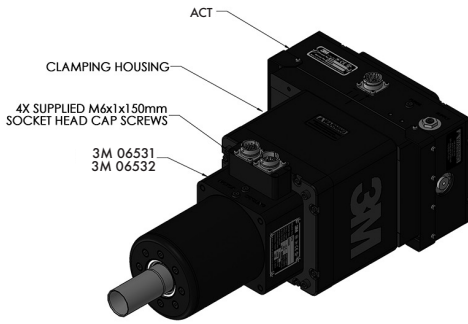

Figure 2. Spindle Motor Perpendicular-Axis Configuration
To attach the tool to an ACT in a Perpendicular-Axis configuration, position the Clamping Housing/Mounting Plate over the Carriage as shown in Figure 2. Then secure the unit using four (4) M6x1x145mm Socket Head Cap Screws. Tighten the fasteners to the torque specified in the Technical Specifications Section. 5mm Dowel pins can be inserted and glued into the Carriage to align the motor. The Clamping Housings and Mounting Plate have predrilled clearance dowel holes for this configuration.